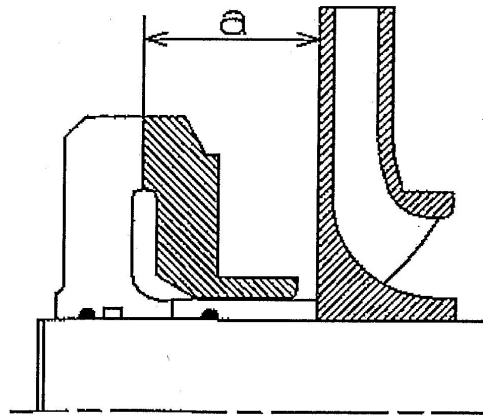

Fig.12 Adjusting Distance "a" in Rotor
- (1) Measuring the distance “a” between the contact surface of balancing disc seat (6020) and the hub face of last stage impeller. (see Fig.12)